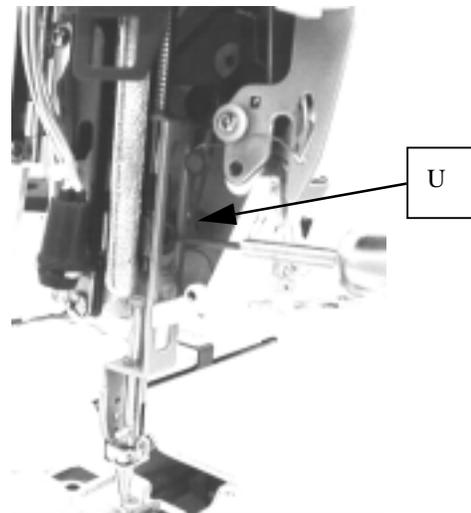

FIGURE 2-14-3
Adjust the depth of needle penetration by loosening needle bar clamp screw(U) Fig.2-14-3 so that the distance between the outer circumference of the hook body and the upper end of the needle becomes 2.3mm in this set phase.